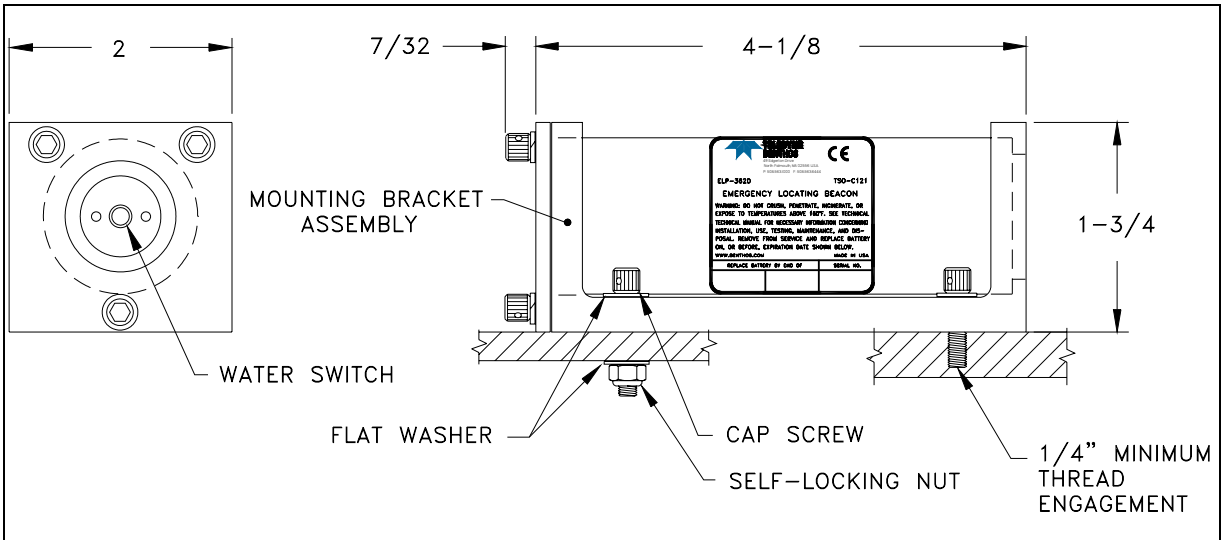

Figure 3-2 Securing the Mounting Bracket
Figure 3-2 Securing the Mounting Bracket.....	8
2. Secure the mounting bracket with four 10-32 stainless steel screws and associated hardware (not supplied) as shown in Figure 3-2.